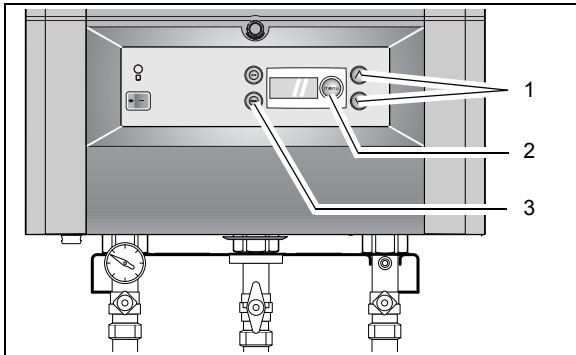

fig. 7 DBA – Mains switch
- Press E button (see fig. 7, item 2) once then adjust the DHW temperature to the desired temperature (40 °C - 60 °C) using the C and D keys (fig. 7, item 1).
- Press the E button (see fig. 7, item 2) twice.
- Press E button (see fig. 7, item 2) three times then adjust the flow temperature to the desired temperature (30 °C – 80 °C) using the C and D keys (see fig. 7, item 1).